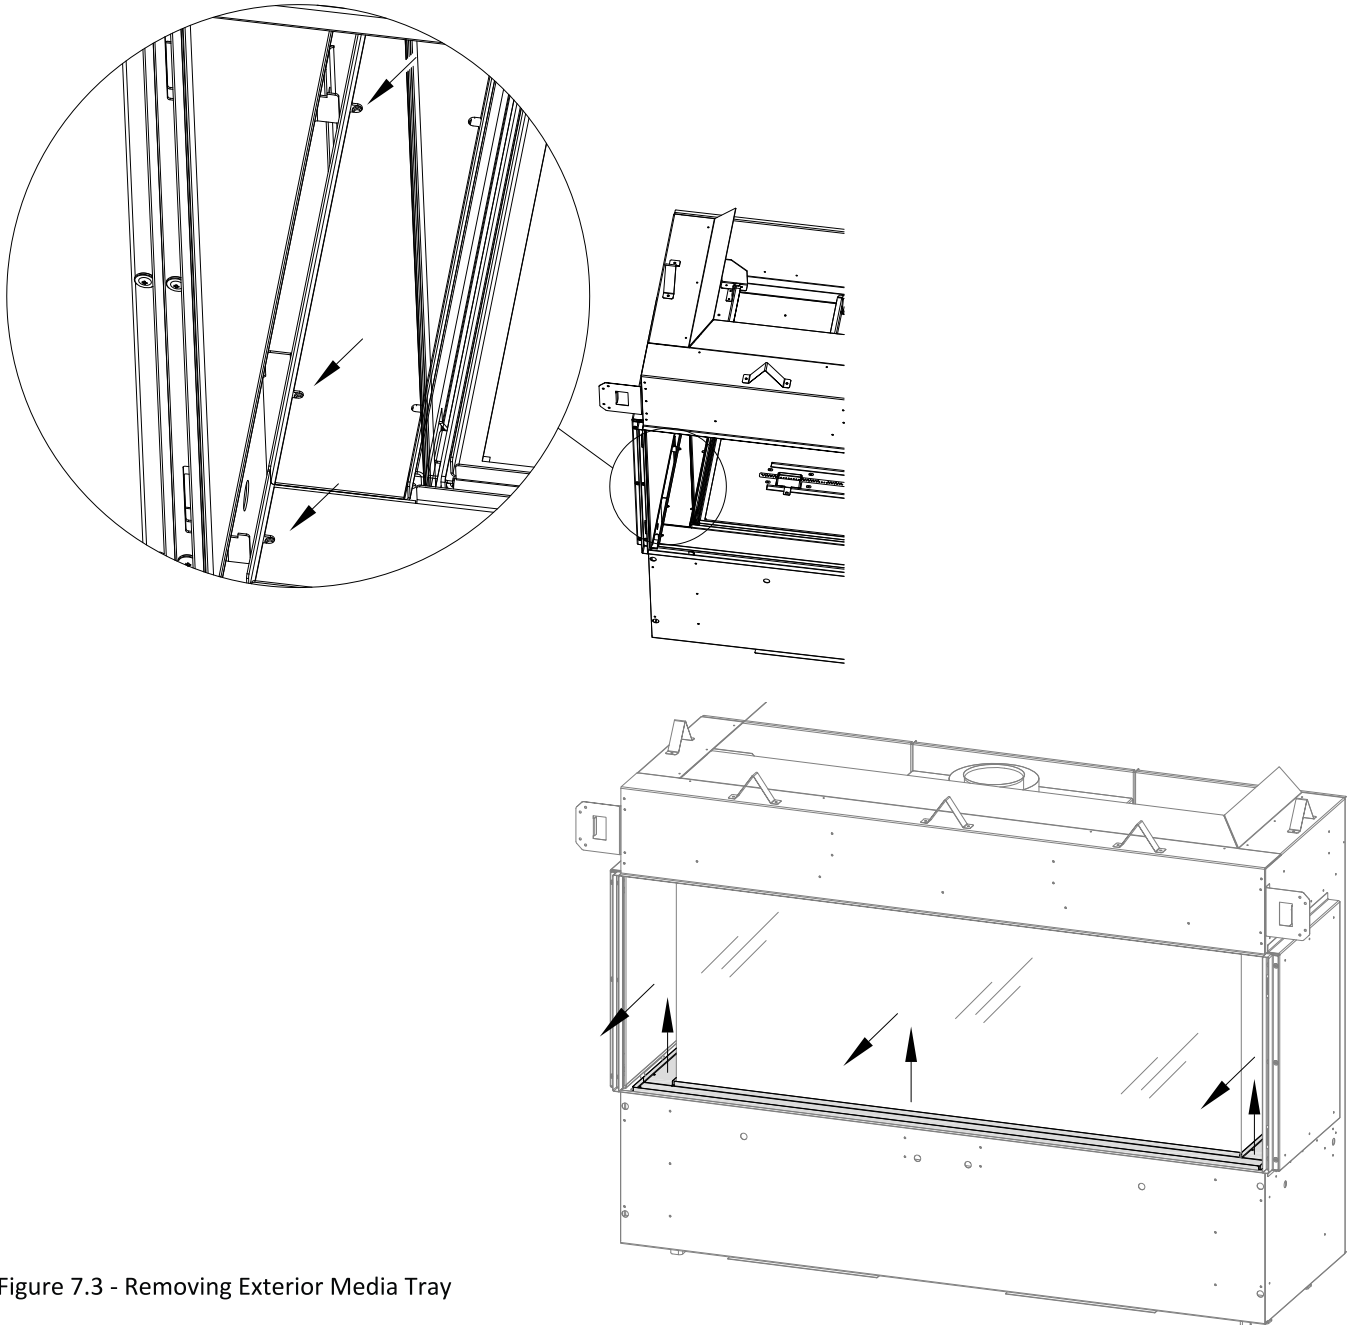

Figure 7.3 - Removing Exterior Media Tray
1. After the safety glass is removed locate the (3) sheet metal screws that secure each side media tray and the front media tray. See Figure 7.3.
2. After removing the sheet metal screws you can lift up and remove the media trays. See Figure 7.3. Reinstall in reverse order.